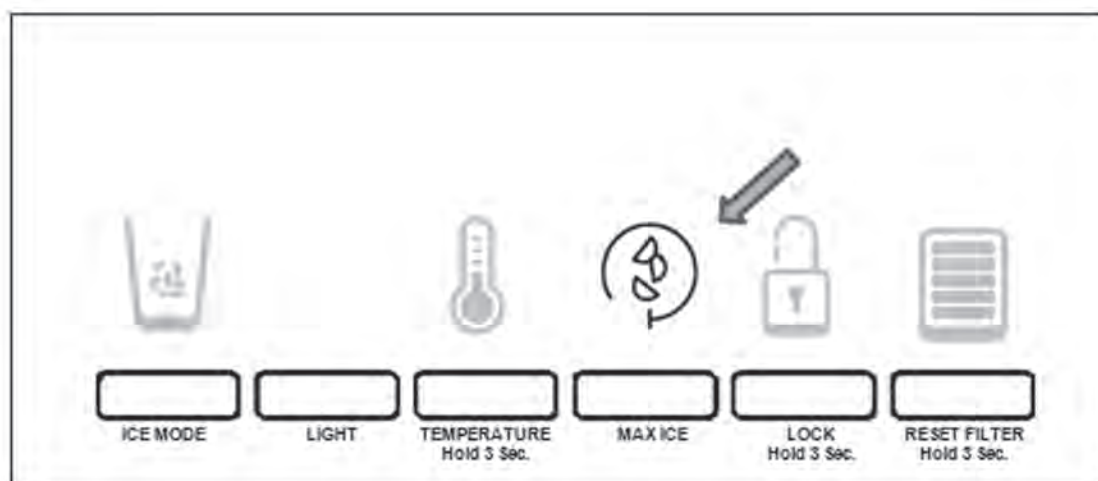

Figure 11
**IMPORTANT:** This feature only works if the ice maker is turned on. Press MAX ICE to turn on this feature. When the feature is on, the Max Ice icon will appear on the dispenser display screen. See figure 11.